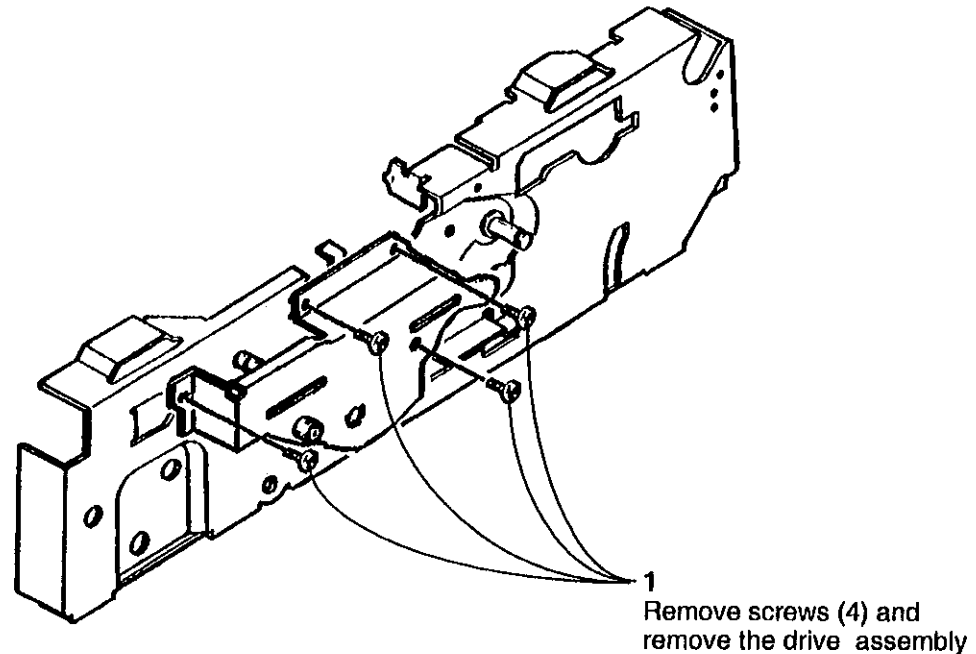

Figure 1. Removing the Fuser / Paper Transport Drive Assembly
- 2 (Figure 1) Remove the Fuser / Paper Transport Drive Assembly